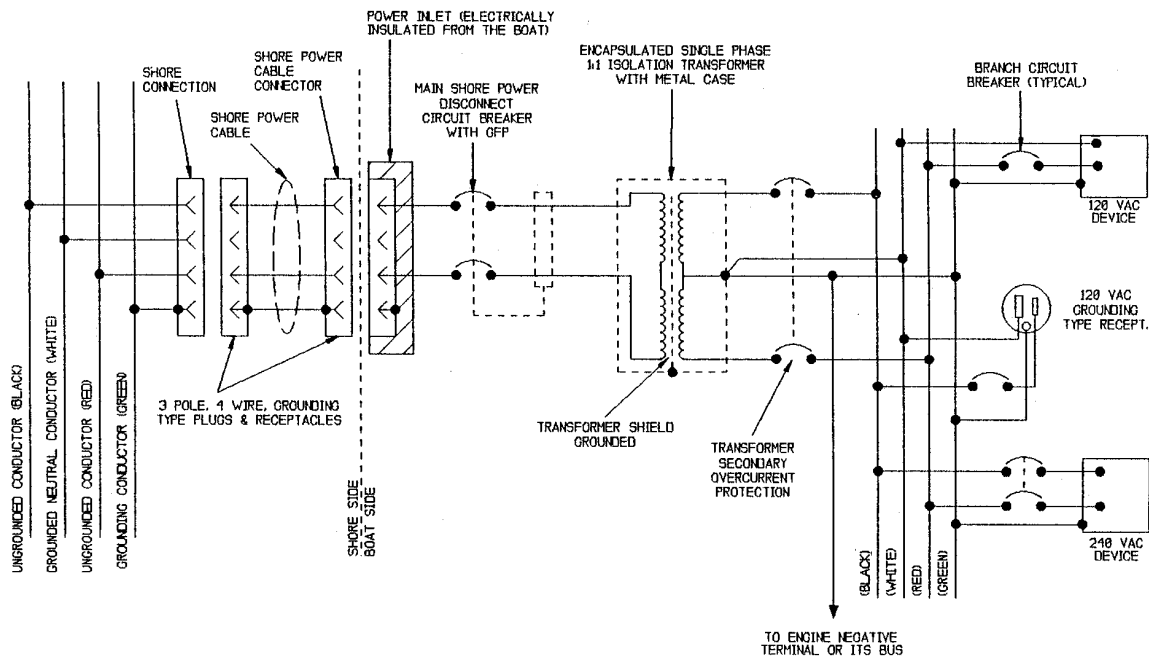

Figure 4. Electrical Diagram – Method 2
There are two wiring methods that are acceptable for installation of the PM3™ as an isolation transformer in accordance with the American Boat and Yacht Council (ABYC) *Alternating Current (AC) Electrical Systems on Boats* standard. See Figure 3 and Figure 4.
*Note: Figure 3 and Figure 4 are reprinted with permission from the American Boat and Yacht Council (ABYC). To obtain the complete standard referenced or any other standards contact the ABYC.*
Isolation Transformer System with Single-Phase 240-Volt Input, 120/240-Volt Single-Phase Output, Ground Fault Protection and a Grounded Secondary. Shield and Metal Case Grounded on Boat (Figure 4) – The ungrounded shore current-carrying conductors are connected from the power inlet to the primary winding of the isolation transformer through a ground fault protection device which simultaneously opens both current-carrying shore conductors. Fuses shall not be used in lieu of simultaneous trip devices.